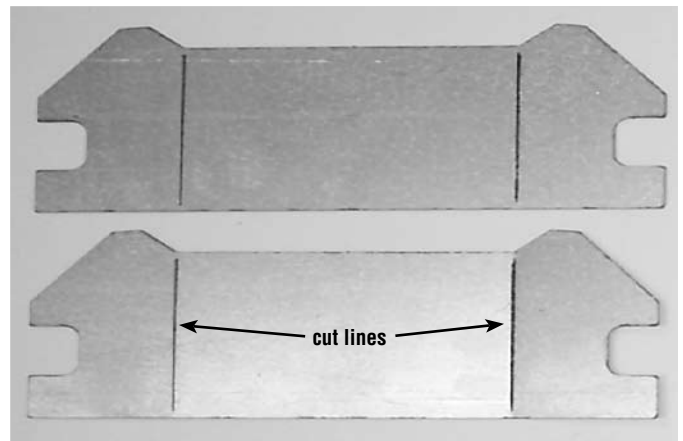

Figure 39
1. Remove the two log support brackets from the box and bend the ends of the brackets 90 degrees at the cut lines. See **Figure 39**.